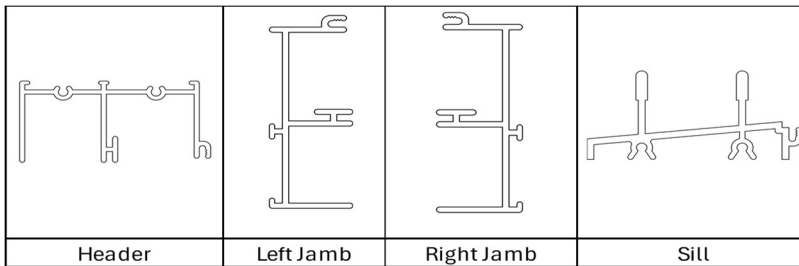

Figure 1
3.1 Lay out the frame members and compare sections with illustrations in figure 1: